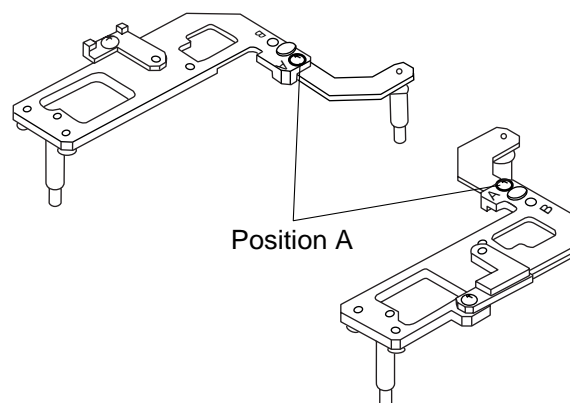

Figure 4-209
3) Pull the arm out of the main frame, and extend it until it comes into contact with the stopper as indicated in Figure 4-209.